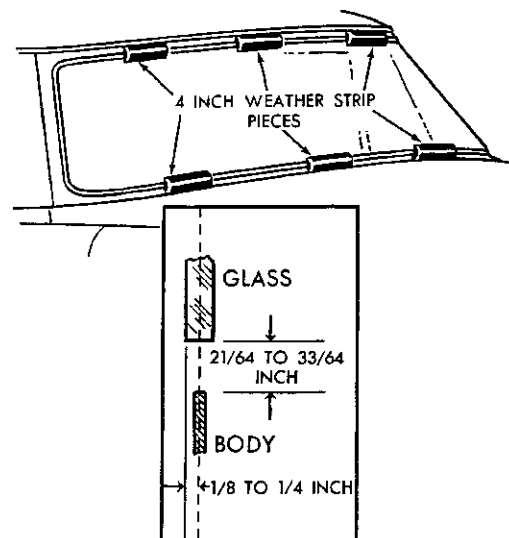

Fig. 65—Measuring the Windshield Clearances
- (1) Remove the windshield weatherstrip.
- (2) Install the glass in the opening with six four-inch long pieces of weatherstrip, as shown in Figure 65. (This is enough to support the windshield in place.)
- (3) Measure the clearance between glass and fence. A properly centered glass has  $2\frac{1}{64}$  to  $3\frac{3}{64}$  inch clear-